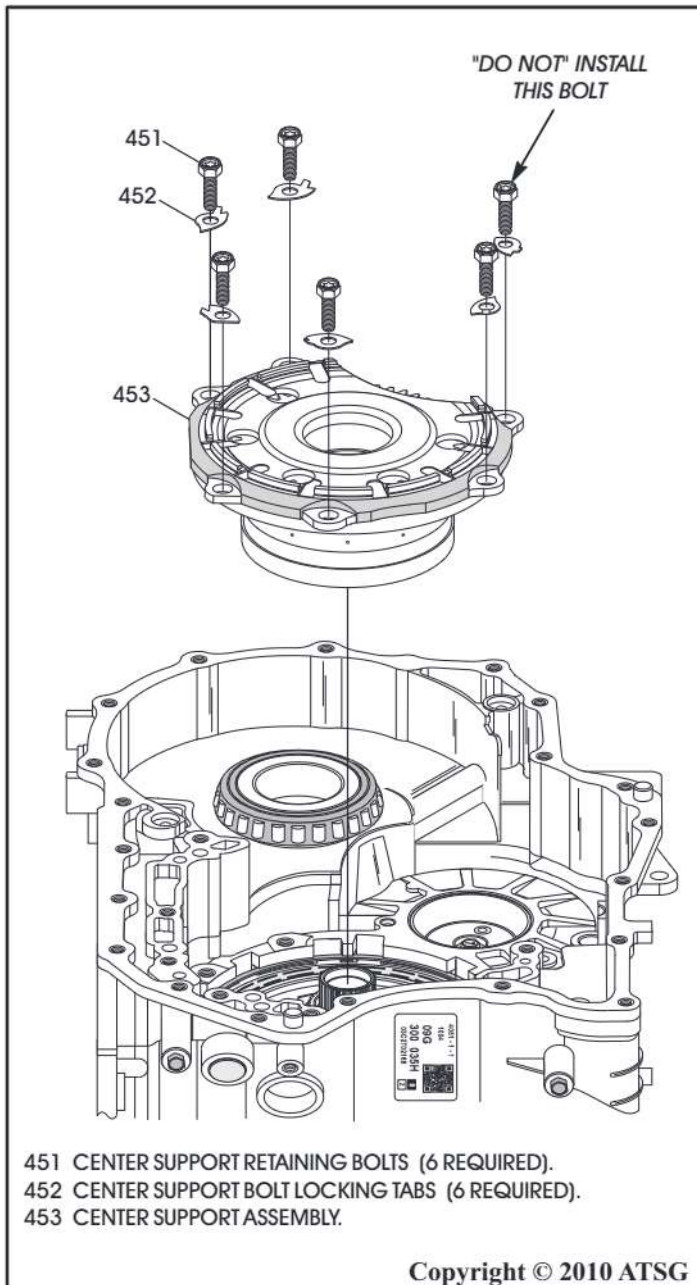

Figure 172
11. Install the completed center support assembly, as shown in Figure 172, by rotating back and forth into position.
12. Install five of the six center support retaining bolts shown in Figure 172, and hand tighten only the five installed bolts.
25. Now install the last center support retaining bolt, as shown in Figure 172, and torque all six bolts to 22 N·m (16 ft.lb.), using a 50 Torx bit.